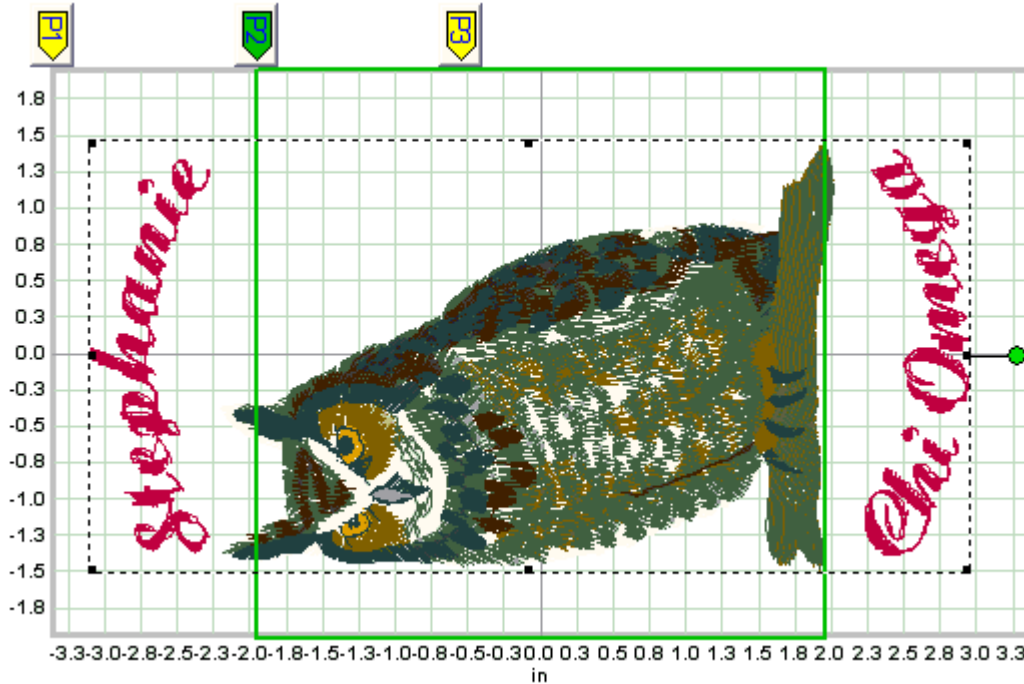

Figure 2 A three-position positional hoop, with positions P1, P2, P3 displayed in SewWhat-Pro.
- **Positional Hoops** are included in the hoop size list (you may have to scroll to the bottom of the list) and are labeled as such. They will appear in the **SewWhat-Pro** workspace with arrow-markers to indicate the position of the hoop stops for the overlap hoop sections. You can click those markers to display the individual hoop positions. In the positional hoop shown in Fig. 2, there are 3 hoop positions P1-P3. Below, the middle hoop position P2 has been clicked to show the (green) hoop at that position. See separation mode toolbar for further information about cutting patterns to fit positional hoops.